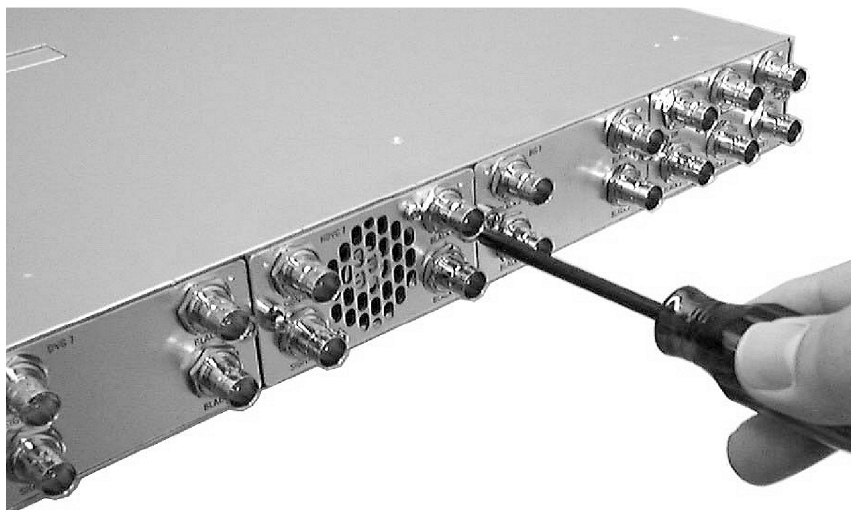

Figure 6: Securing the module
5. Tighten the two screws to secure the module to the mainframe. (See Figure 6.)